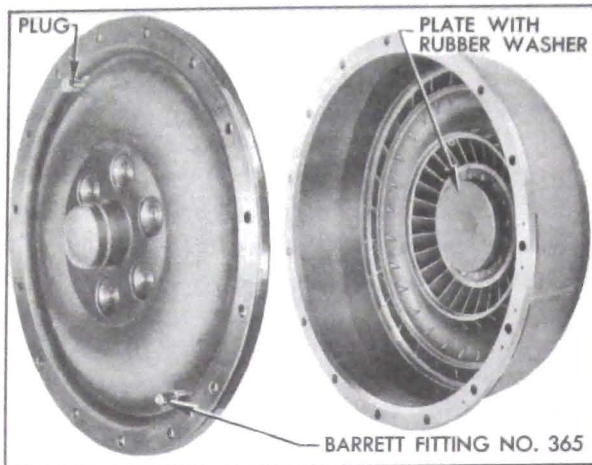

Figure 5-51—Plate and Plugs Installed in Pump and Cover
2. Install plate with washer over inside surface of pump hub (Figure 5-51), then install pump cover with seal and tighten all bolts to 25-30 ft. lbs. torque in sequence shown in Figure 5-108.